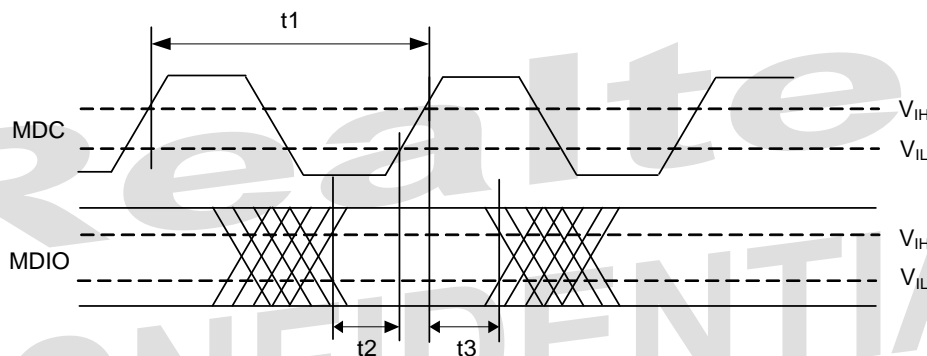

Figure 17. MDIO Sourced by Master (MAC)
- The timing characteristics t_1 , t_2 , and t_3 (Figure 17) of the Master (MAC) are provided by the Master when the Master sources the MDIO signal (Write command)